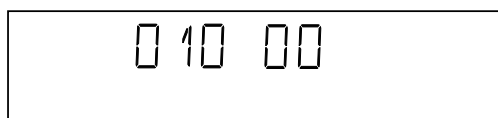

Figure 32
The 2-digit number (23) on the right of figure 32 indicates the number of times the loop test has been performed.